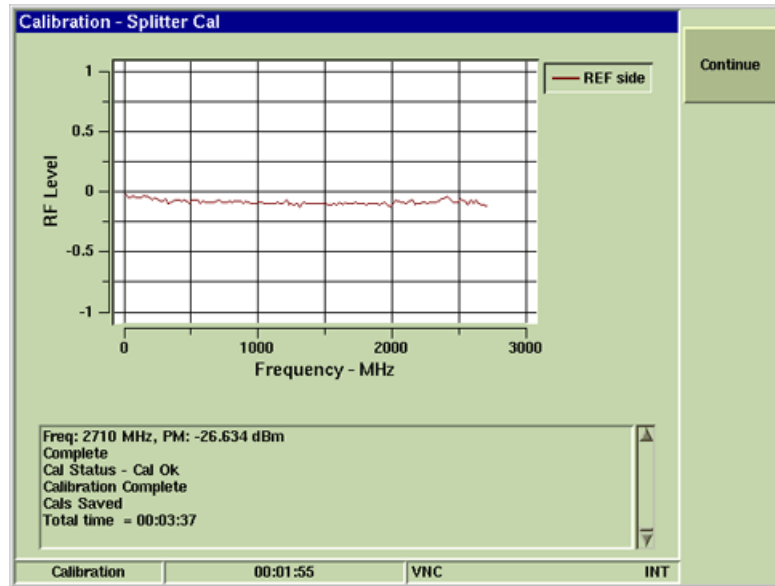

Fig. 4-15 Splitter Calibration Complete
6. When the REF Side portion of Splitter Calibration Procedure is complete, verify Calibration Complete is displayed on screen. Verify signal trace on Test Set resembles signal trace shown in Fig. 4-15.